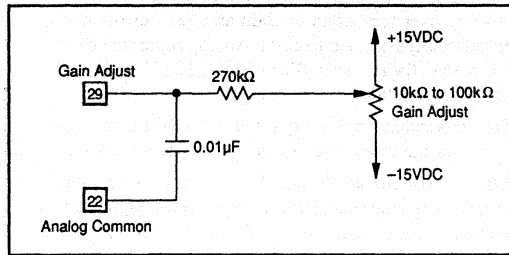

FIGURE 11. Connecting Optional Gain Adjust.
**Gain**—Connect the Gain adjust potentiometer as shown in Figure 11. Sweep the input through the end point transition voltage; that should cause an output transition to all bits on  $E_{IN}$  On. Adjust the Gain potentiometer until the actual end point transition voltage occurs at  $E_{IN}$  On.